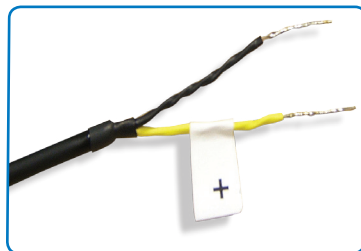

Figure 15
- Negative lead is not marked (Figure 15)